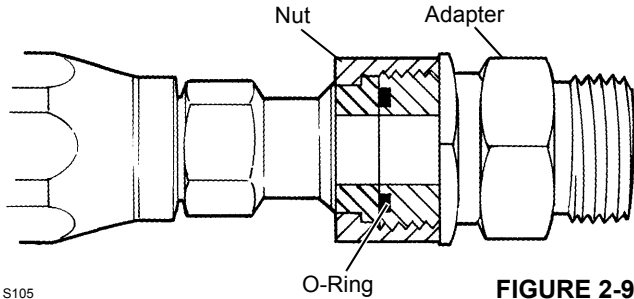

FIGURE 2-9
- 1. Lubricate and install the o-ring in the adapter groove (Figure 2-9).